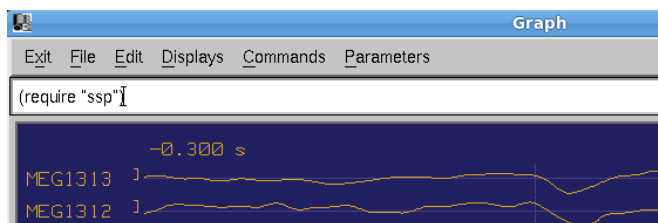

Figure 52: Add the ssp widget to a Graph setup.
- To apply Signal Space Projection (SSP), add an SSP widget by typing on the command line below the menus in the *Graph* display (Figure 52):